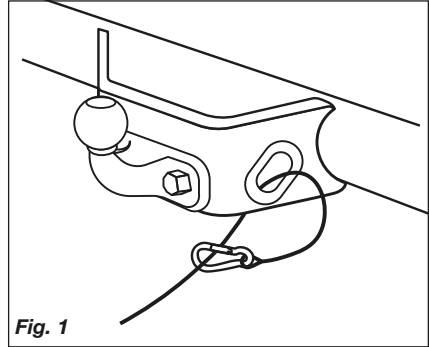

Fig. 1
- Either pass the cable through the attachment point and clip it back on itself (Fig 1) or